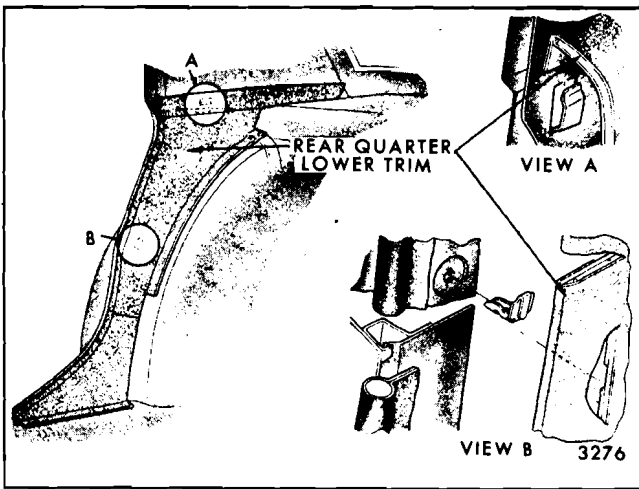

Fig. 14-31—Rear Quarter Trim Assembly -
4. On "C" body styles, insert tool J-6335 or J-9886 or equivalent under leading edge of trim to pry retaining clip from plastic retaining plugs (View "B", Fig. 14-31).
6. Lift trim assembly upward to disengage it from clip retainer at beltline and remove trim assembly from body (View A, Fig. 14-31).